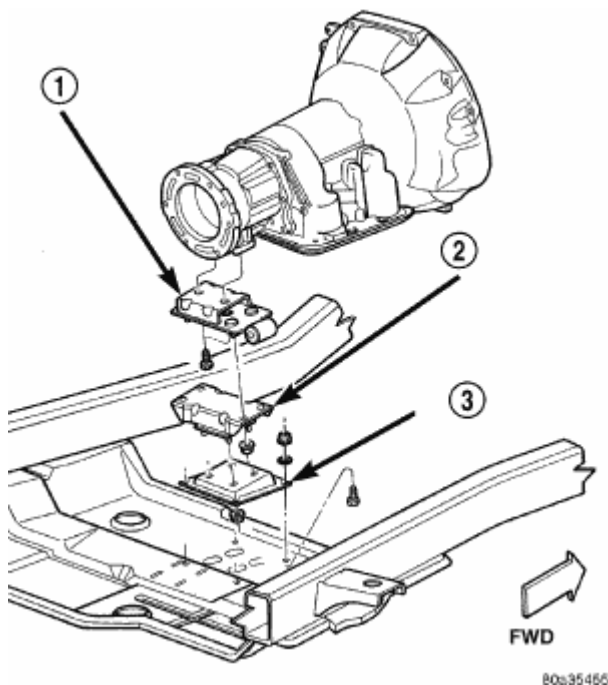

Fig. 167: Rear Mount (Automatic Transmission)
5. Remove the support cushion (2). See **Fig. 167**.
4. Remove nuts holding support cushion to transmission support bracket. Remove the support cushion (2). See **Fig. 167**.